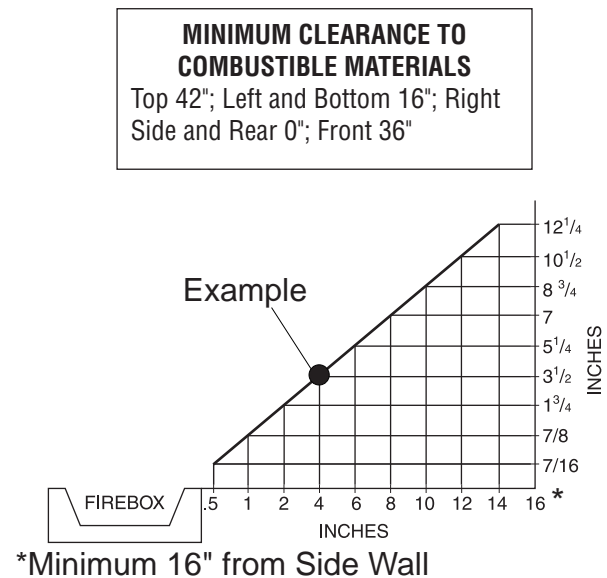

Figure 8 - Minimum Clearance for Combustible to Wall
- where curtains, furniture, clothing or other flammable objects are less than 36" from the front and 42" top of fireplace. For side clearances see *Figure 8, Page 8*
A. Clearances from the side of the fireplace cabinet to any combustible material and wall should follow diagram in **Figure 8**.
Example: The face of a mantel, bookshelf, etc. is made of combustible material and protrudes 3 1/2" from the wall. This combustible material must be 4" from the side of the fireplace opening (see **Figure 8**).